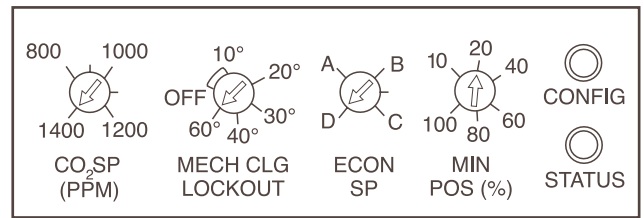

Fig. 34 — EconoMiSer Control Adjustment Potentiometers (Factory Settings)
2. Locate the CO₂ SP (PPM) potentiometer and adjust to the desired set point. See Fig. 34.
Determine the outdoor-air temperature at which you want the mechanical cooling (compressors) to be disabled. Locate the mechanical cooling lockout (MECH CLG LOCKOUT) potentiometer. To disable this feature, turn the potentiometer counterclockwise (CCW) to the OFF position. Otherwise, set the value between 10 and 60 F. Mechanical cooling will not operate when the outdoor-air temperature is below this value. See Fig. 34.
Determine the dry bulb changeover set point from Table 4. The settings are A, B, C and D. Locate the ECON SP potentiometer and set the dry bulb changeover set point. See Fig. 34. When the OAT is above this set point, the damper is limited to minimum position setting.
- Locate the minimum position (MIN POS) potentiometer. Turn the potentiometer full CCW to fully close the outdoor air dampers. Turn the potentiometer gradually clockwise (CW) to the desired position. See Fig. 34.